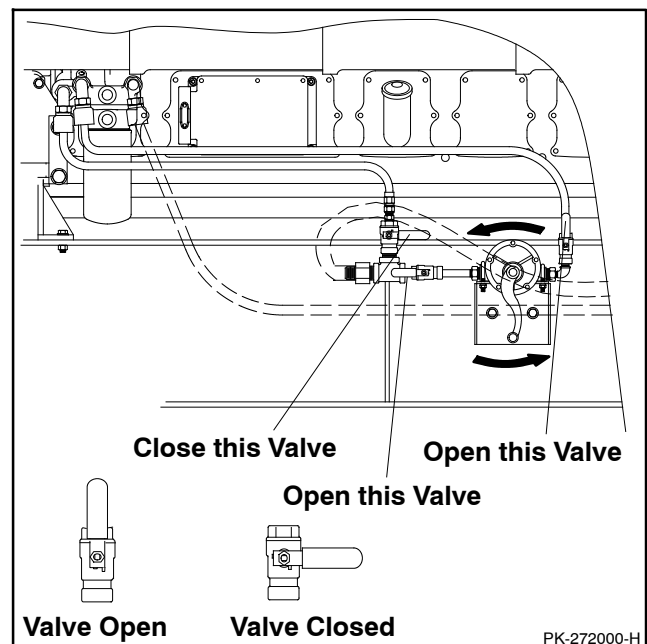

Figure 3-1 Hand Prime Pump with Valve Positions for Fuel Priming (generator set without a fuel/water separator shown), Typical
1. Place the fuel valves in the fuel system prime position. Close the fuel valve located between the pipe tee and the engine. Open the fuel valves on each side of the fuel prime pump. See Figure 3-1.